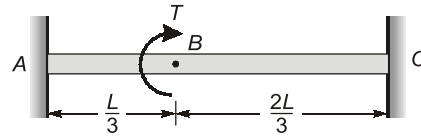

Fig. 7.17
Q.9 A circular shaft of length ' L ' is held at two ends without rotation. A twisting moment ' T ' is applied at a distance ' $L/3$ ' from left support as shown in the given figure 7.17. The twisting moment in the portion AB will be